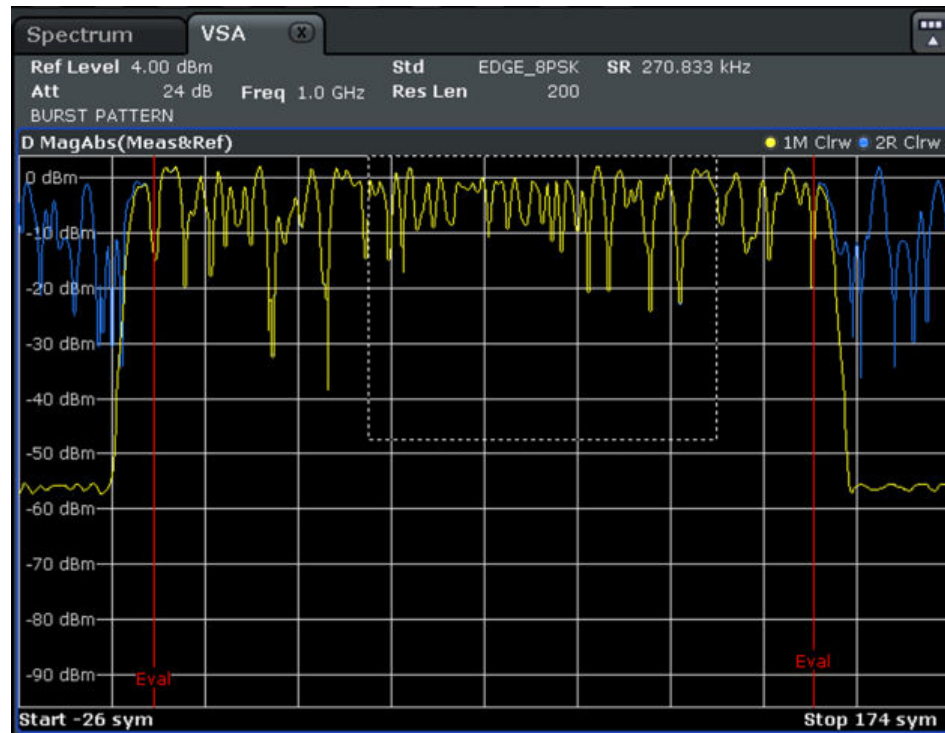

Figure 9-13: Zooming
4. Select "Clear Write" as the "Trace Mode" and "Evaluation: Ref". This adds a second trace to your result display. This trace is the ideal reference signal that can now be compared to the measurement signal (see Figure 9-13).
- To view the traces in more detail, enlarge the window using the "Split/Maximize" key () , and zoom into the display using the  icon in the toolbar (see the dotted rectangle in Figure 9-13).